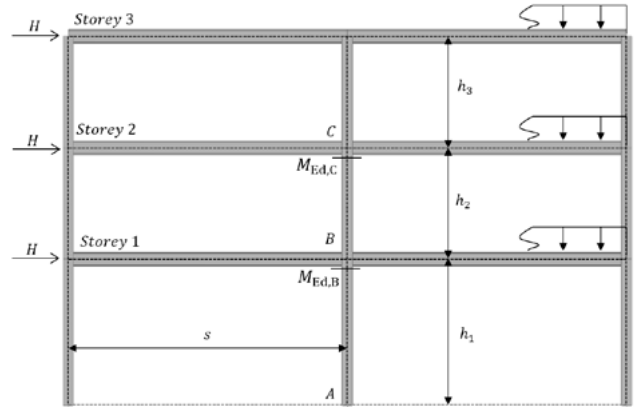

Figure 4: Geometry for worked example 2.
In worked example 2, the comparisons are extended to a three-storey frame (shown in Figure 4). Geometric conditions can be found in Table 3. Two examples are considered for different levels of horizontal load. Comparisons of the Unity factor (UF) for relevant checks according to EN 1993-1-1 are presented in Table 4 and Table 5 for the two horizontal load arrangements.